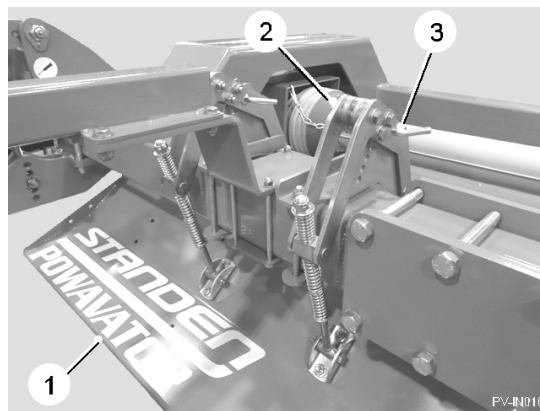

Fig. 10
The spring-loaded trailing boards (item 1, fig. 10) help control the type of tilth produced. With the boards lowered, the cultivated soil strikes them and clods are broken on impact producing a finer tilth. Trash is held and buried while the board levels and consolidates the top of the bed. With the boards raised, the soil is thrown out unrestricted producing a coarse tilth. Trash and weeds are left on the surface to weather.
To adjust the height of the trailing boards (item 1, fig. 10):
1. Remove the 'R' clips (item 2, fig. 10).
2. While taking the weight of the trailing boards, remove the securing pins (item 3, fig 10).
3. Reposition the trailing board as required and replace the securing pins (item 3, fig 10).
4. Finally, refit the 'R' clips (item 2, fig 10).